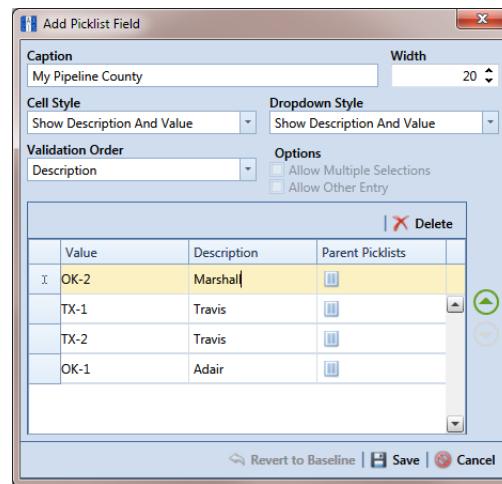

Figure 3-53. Add Picklist Field
- 10 To add another data item in the child picklist, follow these steps (Figure 3-53):